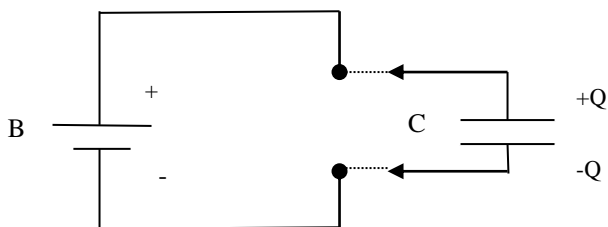
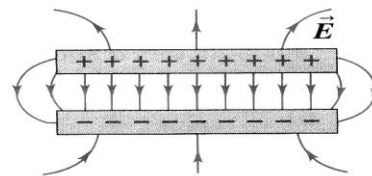

Fig.1
Fig.2
- One can model a **battery** (B in fig.1) as a "electric energy container" that **keeps constant** the difference of potential  $V^1$  between its terminals when a *device* or a **circuit is connected to them**. Once the plates of a capacitor C get connected (by metallic wires) to battery terminals, they get terminal potential and this builds the difference of potential  $V$  between the capacitor plates. The *electromotor force "emf"* of battery removes some free  $e^-$  from one plate of capacitor, this way charging it positively "+" and transfers the **same number** of  $e^-$  to the other plate of the capacitor (charging it negatively "-"). At the end of transfer, each plate gains the same amount of charge ( $+Q, -Q$ ). Each of these two charges is distributed uniformly on the inner surface of one **conducting plate**(fig.2). As the areas of the plates are equal, each of them get the same charge density  $\sigma$  (but opposite sign). It comes out that, for a given potential difference  $V$  between them, the plates of a capacitor can host only a precise amount of charge " $Q$ ". Once this amount  $Q$  is stored on the plates, the battery does not remove any more charges and the process of the charge transfer stops. Assume that, after this moment, one disconnects the battery. The charges  $+Q, -Q$  will remain on conducting plates (Fig.2) and the capacitor will keep the same difference of potential  $V$  between its plates.
- The Fig.2 presents the electric field in the empty space between two plates of a capacitor. One may neglect the small areas close to plate corners and consider only *the field in central region*. In this region one can use the model of field built by a charge Q distributed uniformly on a **large plane**. We have found that this field is **uniform**, directed perpendicular **to the plane** and its magnitude is  $|E| = \frac{\sigma}{2\epsilon_0}$ . Since